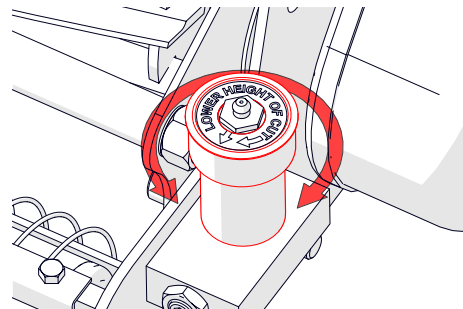

Fig.12D - Adjust the cut height adjuster.
6. Manually turn the cut height adjuster to alter the height (Fig. 12D). It adjusts in quarter turn 'clicks' of 0.25mm increments. Therefore a full rotation of the adjuster raises or lowers by 1mm.